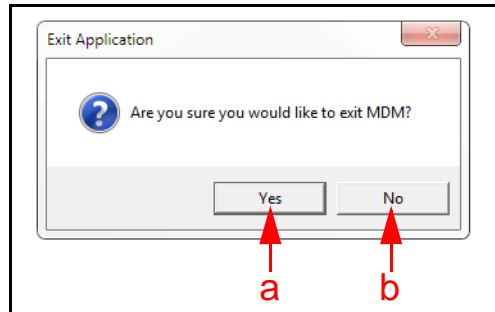

Figure 41 Exit Application Dialog Box
2. The Exit Application dialog box will appear, as shown in Figure 41. Click 'Yes' (Figure 41 a) to exit the program, or on 'No' (Figure 41 b) to return to the application.